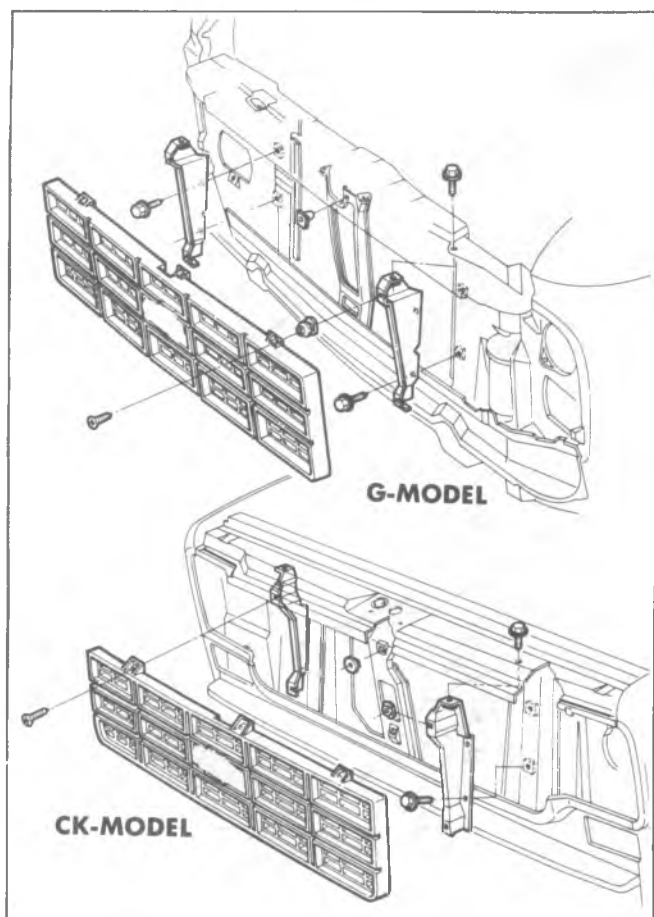

Fig. 2C-15--Radiator and Grille Brackets
9. Remove upper and lower radiator grille panels. (Fig. 2C-20).
11. Remove screws securing fender skirts to radiator support bottom. (Fig. 2C-18).